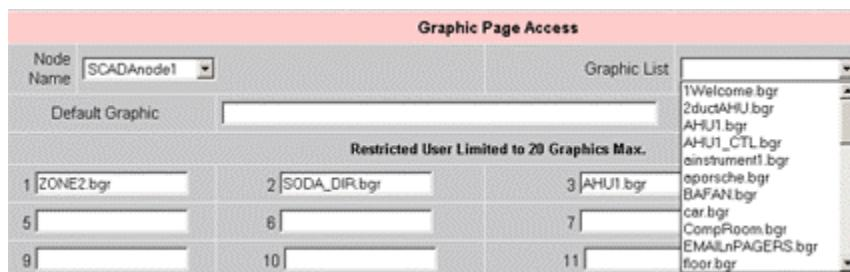

Figure 11-7 - Select Graphic List
20. Select the menu pull down icon to assign graphics for this user on another SCADA Node (Figure 11-7).